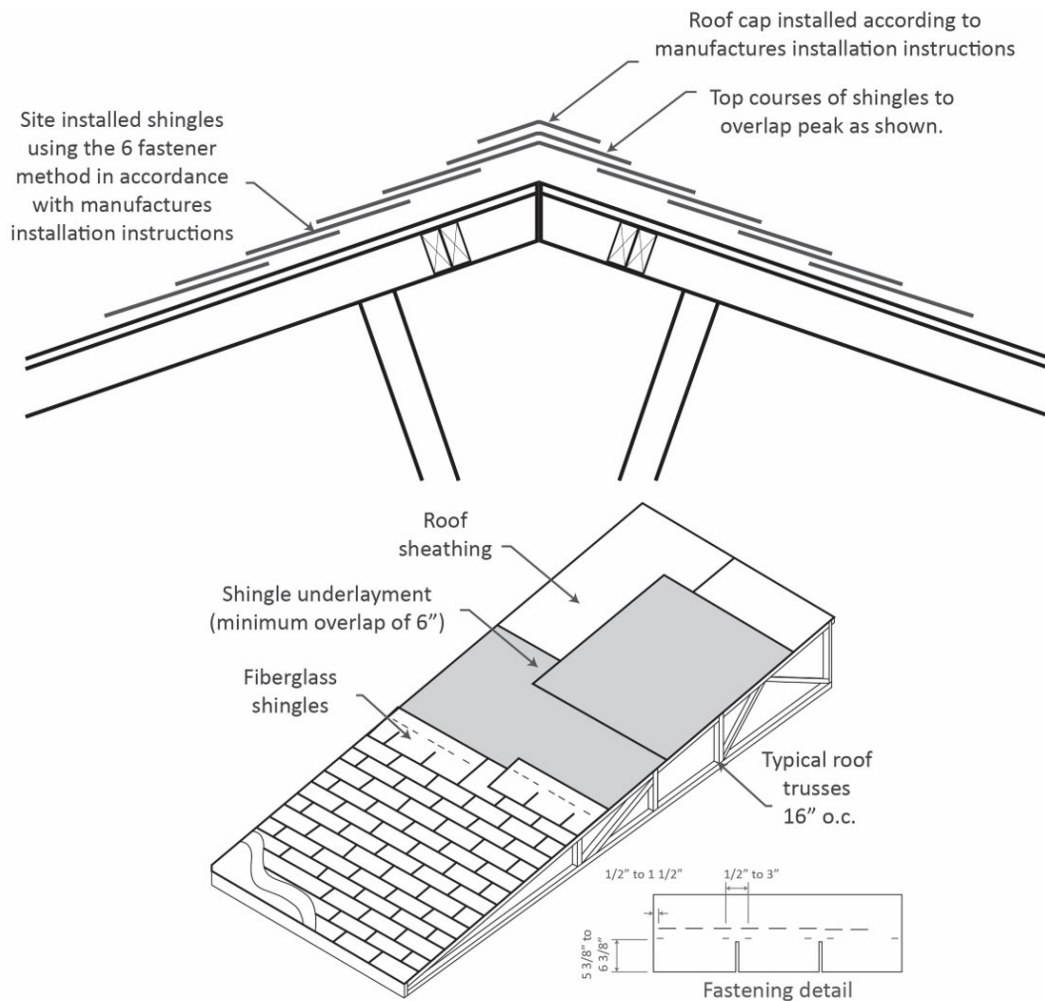

Figure 24 - Shingle Installation.
- **Shingle installation:** After the roof is assembled, the shingles are carefully installed (Figure 24).